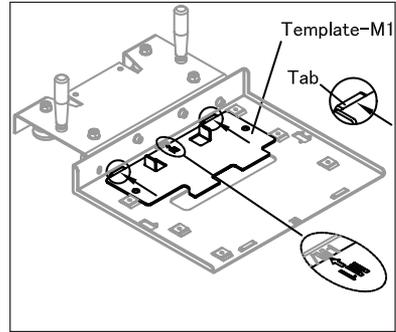

Figure 4
1. Place Template-M1 on the Carriage Base location marked "S / M1", making sure that the Template-M1 makes contact with both tabs on the Carriage Base. (See Figure 4)